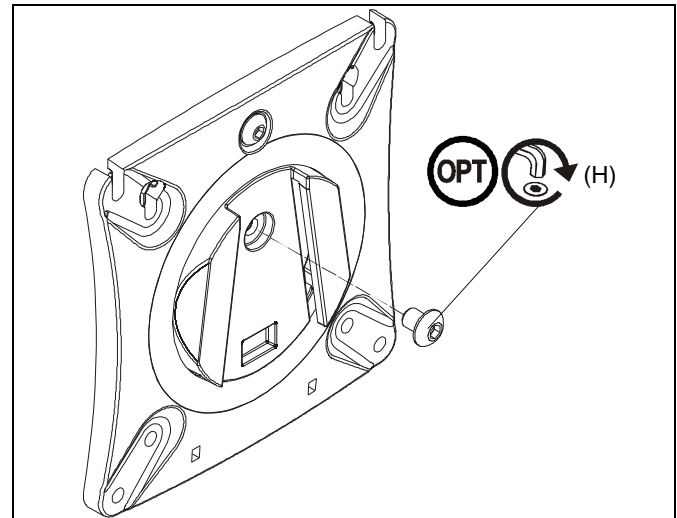

Figure 17
- Adjust pitch to desired tilt position. (See Figure 17)
- Adjust pitch tension screw to change the adjustment tension. (See Figure 17)
- Adjust pivot position as desired. (See Figure 17)
- Use 3/16" hex key (K) to adjust pivot point tension screws to change pivot adjustment tension. (See Figure 17)
NOTE: (Optional) Rotational adjustment may be locked by installing rotational locking screw (H) into back of faceplate. (See Figure 17)